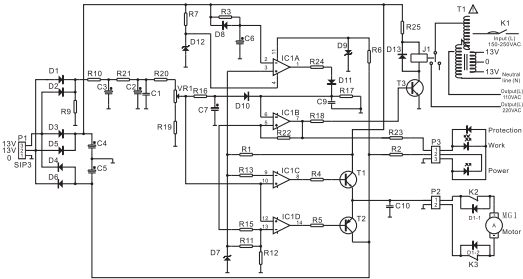

Figure 2 Single-phase: 0.5-1.5kVA Three-phase: 3-4.5kVA
2.4.1 The electric schematic diagram of 0.5kVA–1.5kVA single-phase high accuracy fully automatic AC voltage stabilizer is shown in Figure 2 (for reference only)
Note 1: Refer to single-phase electric schematic diagram Figure 2 and Figure 5 for three-phase 1.5kVA, 3kVA, 4.5kVA, 6kVA, 9kVA, 15kVA, 20kVA, 30kVA sampling control circuit